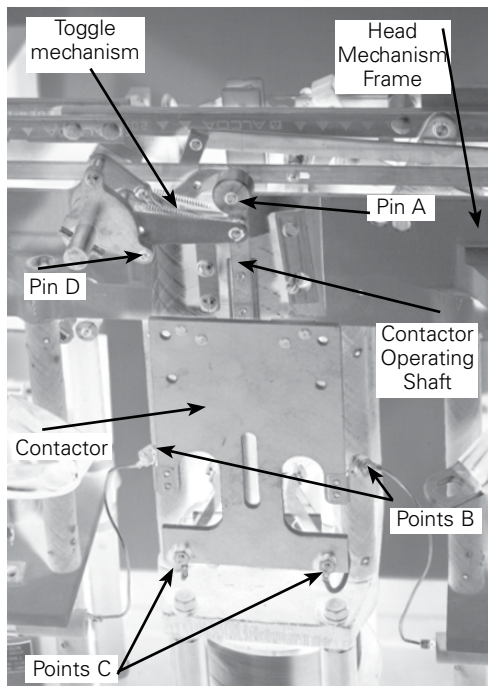

Figure 1. Closing solenoid contactor.
Refer to Figure 1 and the appropriate service manual.
8. Compare toggle mechanism of the recloser to the one pictured in Figure 1. Examine pin **D**.